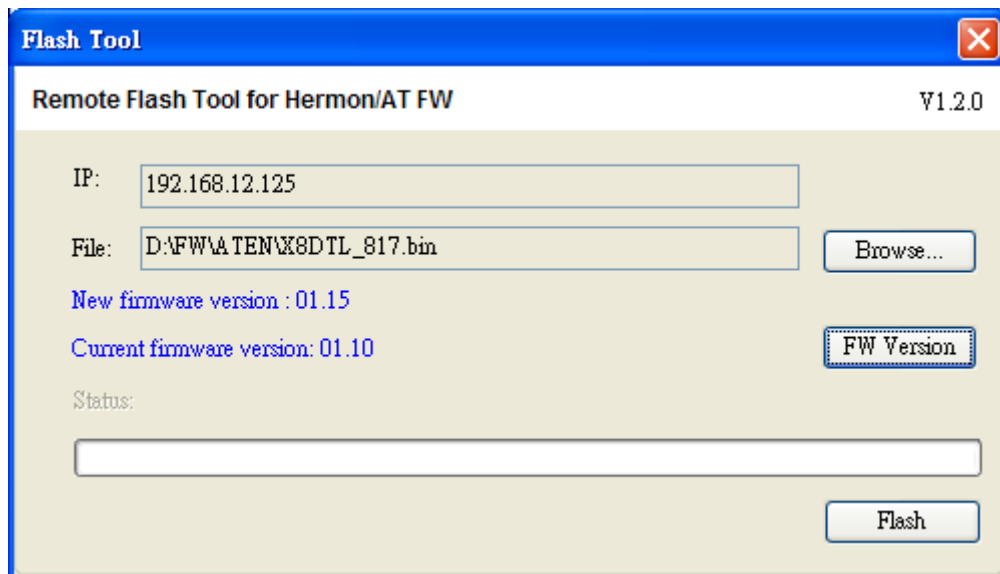

Figure E-5 Firmware Versions
5. Check new and current firmware versions. The firmware versions will be displayed as shown in Figure E-5.